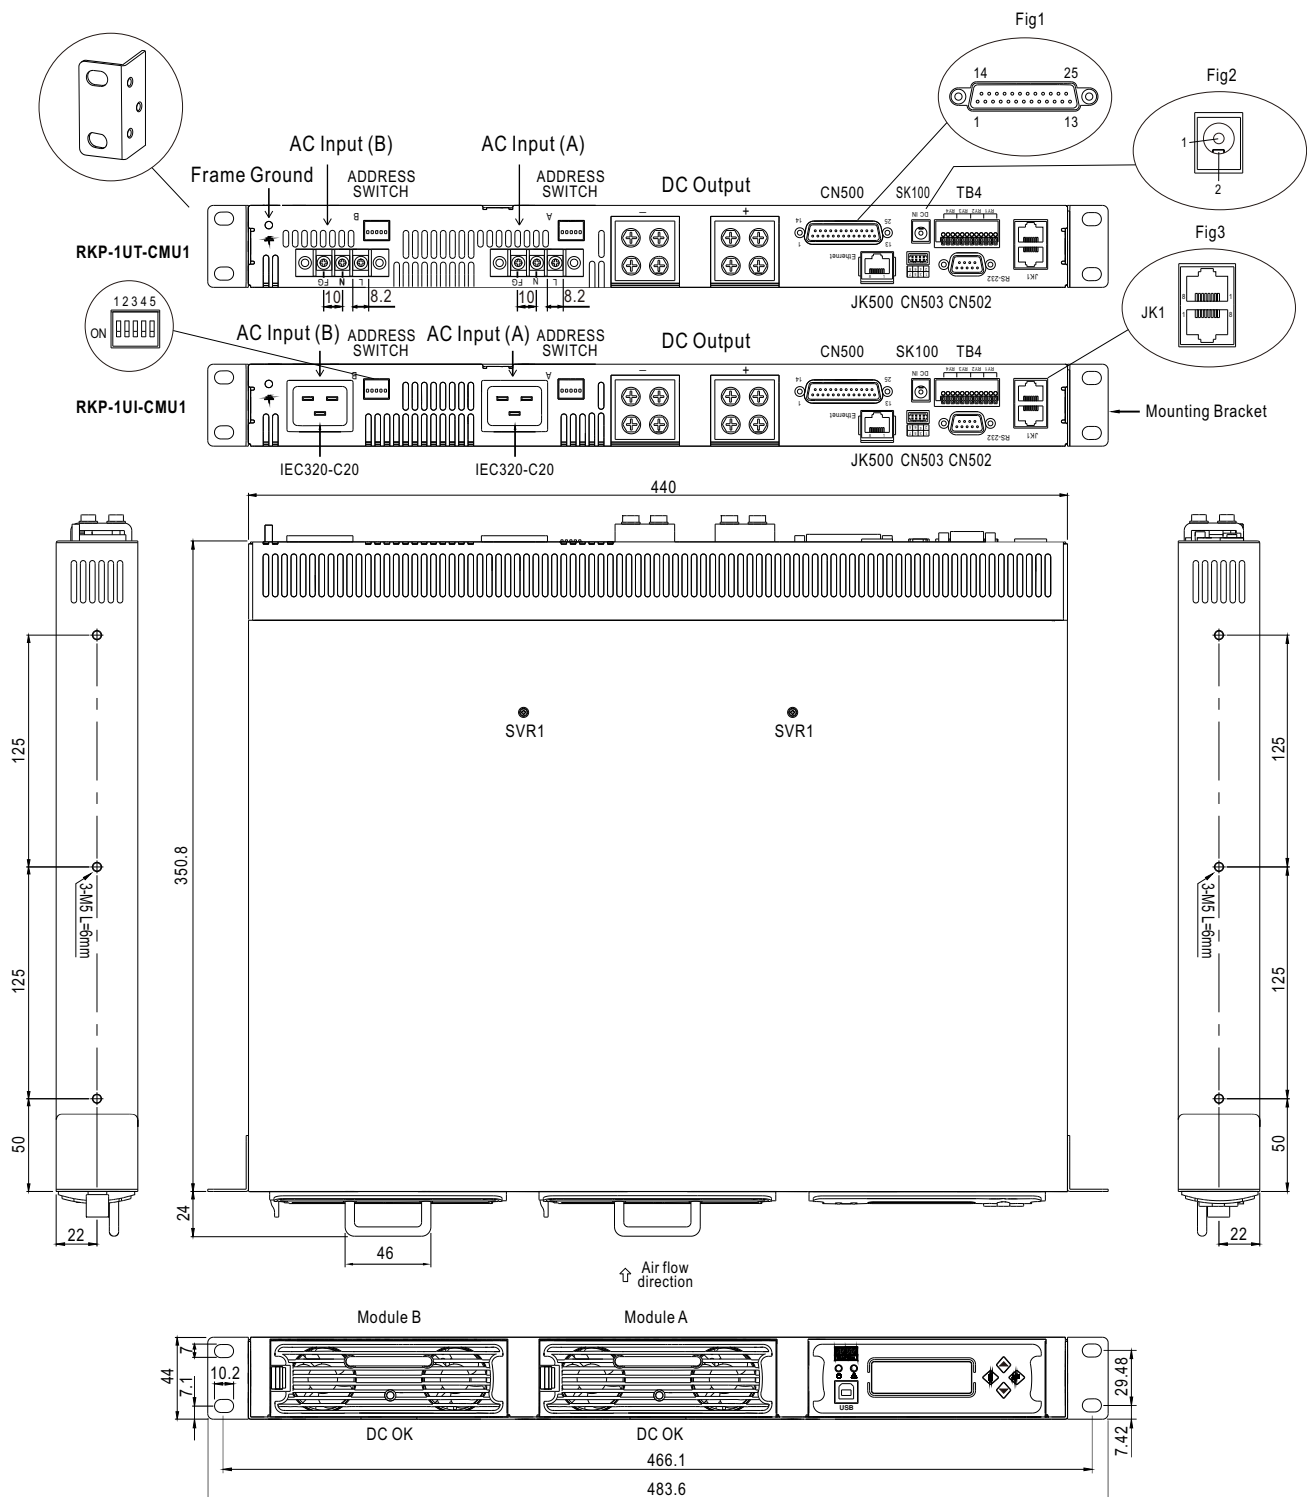

Figure 8-1 System assembly diagram of RCP series
- ⊙Insert 1~2 units of RCP-2000 with the identical output voltage and current into the rack unit. Refer to Figure 8-1.